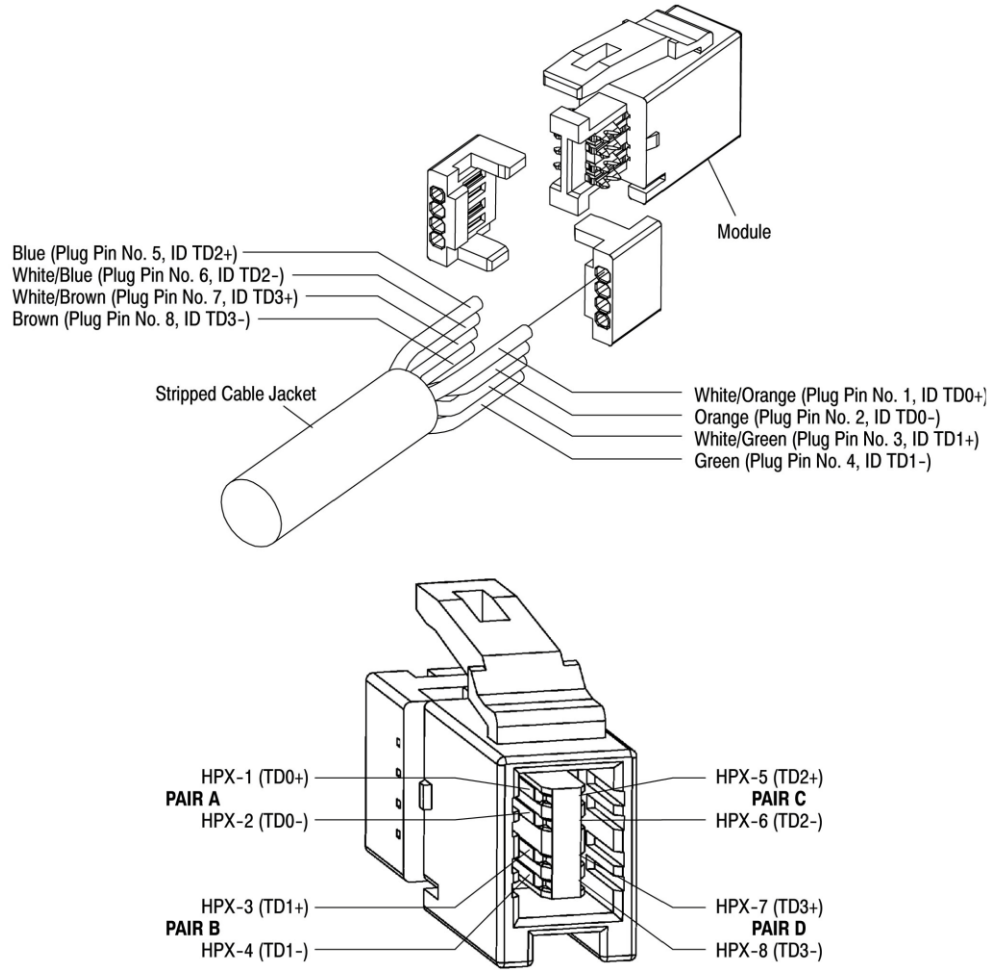
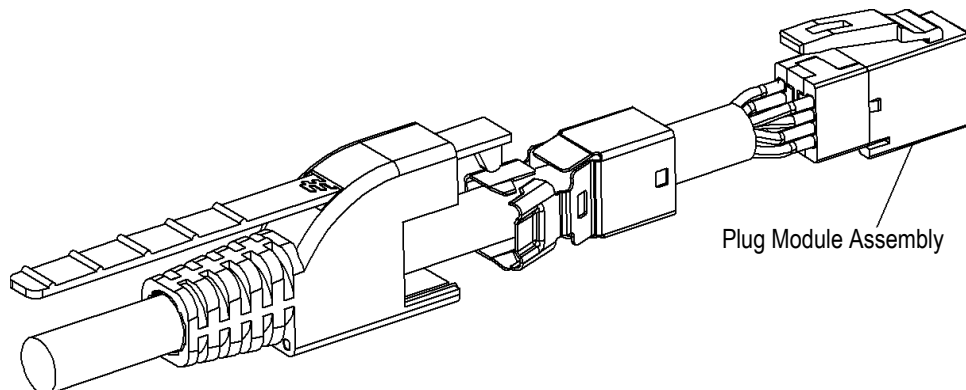

Figure 5
Figure 6
- Align the wires with the module as shown in Figure 5 and insert the discrete wires into the wire holders until bottomed. After wire insertion, the wire holders shall be sandwiched on the plug body as shown prior to crimping as shown in Figure 6.